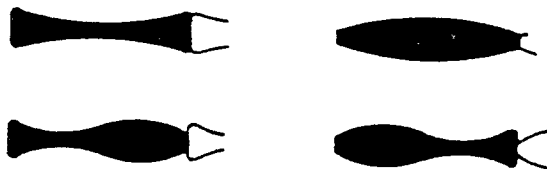

Fig. 30 Incorrect waveform examples
2. If the waveform varies as shown in Fig. 30, adjustment becomes required.